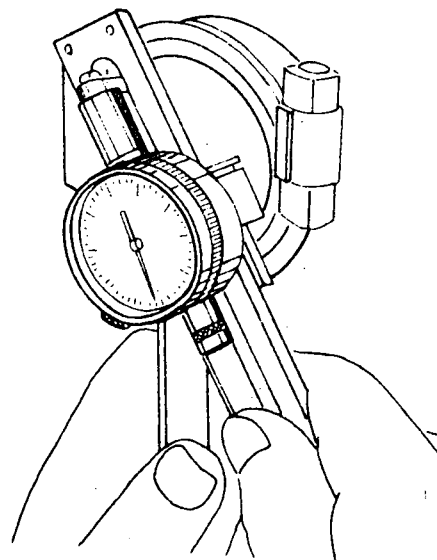

Fig. 2
- c) Check the diameter of the bottom of the connecting rod with an inside micrometer (fig. 2) and compare it against the manufacturer's specification.